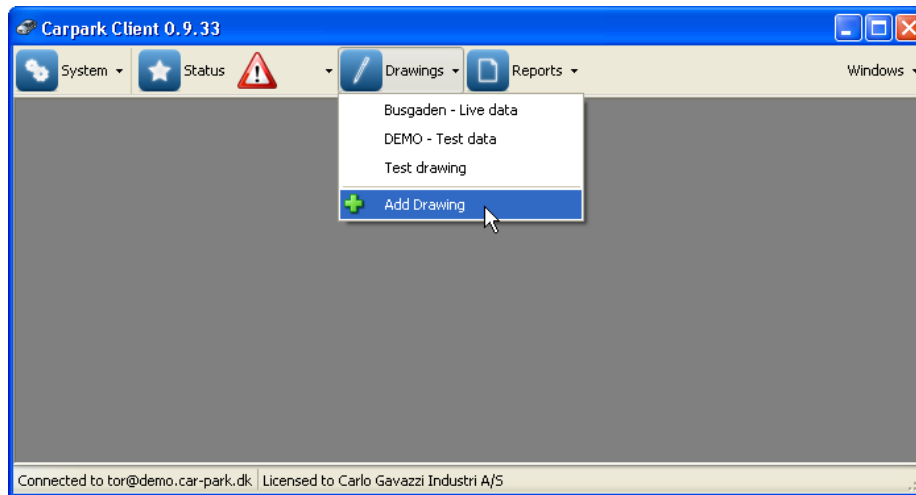
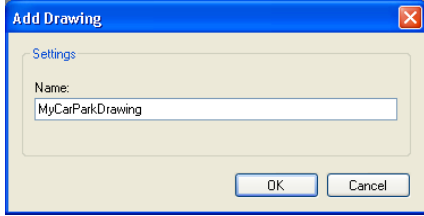
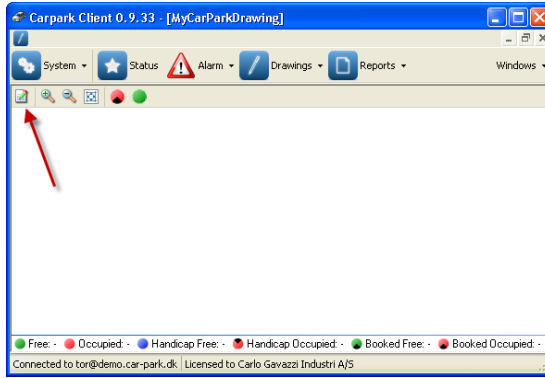
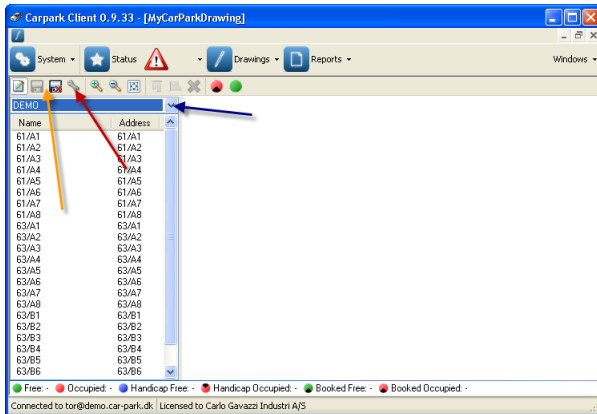

Fig.1
Fig.2
Fig.3
Fig.4
- Click the 'Drawings' button, the window looks like **fig.1**. Select the 'Add drawing', and give your drawing a proper name, as e.g. the example shows in **fig.2**. Click 'Ok'. The window changes to look like **fig.3**. (without the red arrow)
- Click the icon indicated by the red arrow in **fig.3**. - the window changes to **fig.4**.
- Select the relevant parking facility by clicking the scroll bar indicated by the blue arrow in **fig.4**.
- Click the wrench key icon 'Settings' indicated by the red arrow in **fig.4**. A new window appears, **fig.5**, where the details of the drawing can be set.
- Once you have finished placing the sensors on your drawing, it can be saved by clicking the 'Save drawing' icon (indicated with the amber arrow in **fig.4**. (The left of the 2 icons)